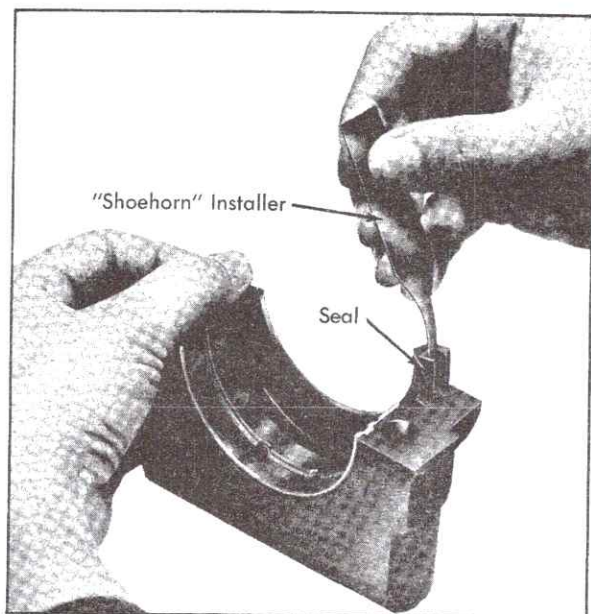

Fig. 6-148 Rear Main Bearing Oil Seal Installation
8. To install lower half of seal into the bearing cap, slide either end of seal into position at one end of bearing cap and place tool on seal land at other end of bearing, Fig. 6-148. Make sure the seal is positioned over the bearing ridge and the lip of the seal is facing forward (car position).
9. Hold thumb or finger (left hand shown in Fig. 6-148) over end of seal that is flush with split line to prevent it from slipping upward, and push seal into seated position by applying pressure to the other end.